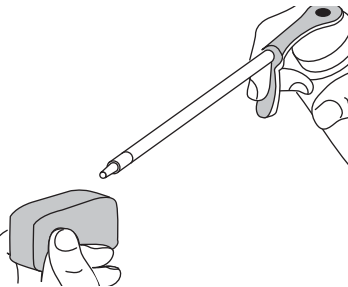

Fig. 26
4. Apply enough clean SAE 30 motor oil to lightly coat the filter (Fig. 26).